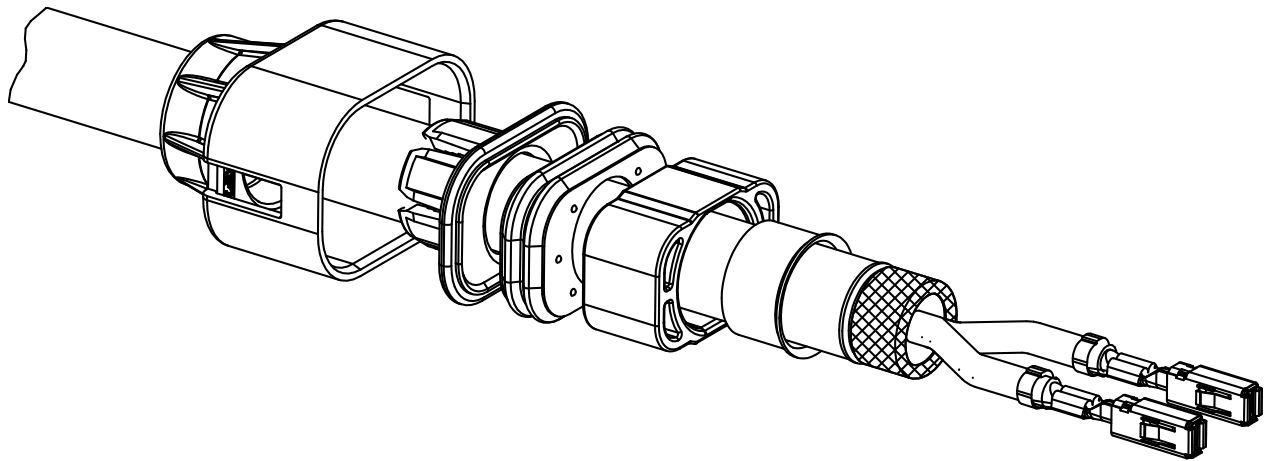

Figure 8
6. Insert the receptacle contacts over the exposed conductor strands and crimp as shown in Figure 8. Refer to Application Specification 114-18148-1 or 114-18387 for specific crimp information. Locate the contact to be crimped in the appropriate tooling according to the instructions packaged with that tooling. Detailed instructions covering the placement of contacts in the tooling and the use of such tooling is packaged with each tool. See Section 5, TOOLING.